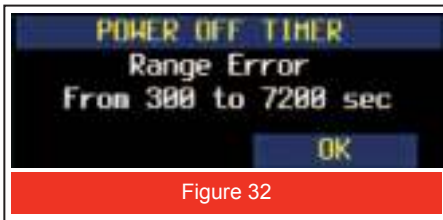

Figure 32
- Entering a value that is invalid, displays a range error message (Figure 32). Tap OK and then enter a valid value.